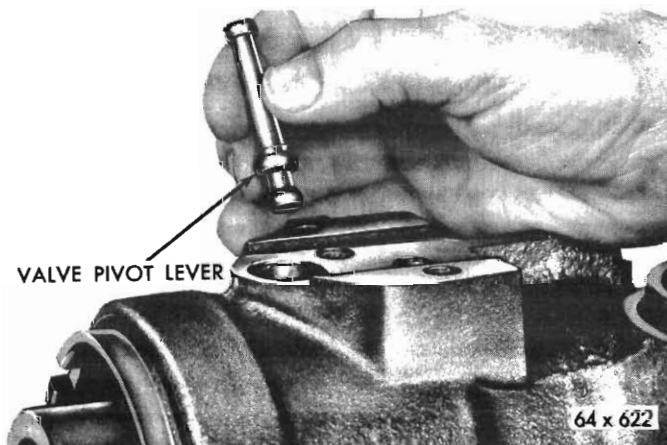

Fig. 24 – Installing valve pivot lever
(56) Install the cover spanner nut and tighten to 110 to 200 lbs./ft.
(57) Install the valve pivot lever (double bearing end first) (Fig. 24) into the centre bearing spacer through the hole in the steering housing so that the slots in the valve lever are parallel to the wormshaft in order to engage the anti-rotation pin in the centre race.